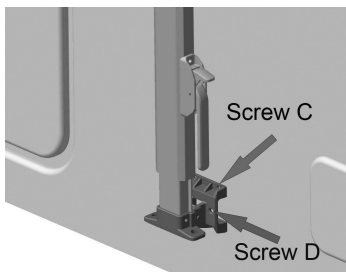
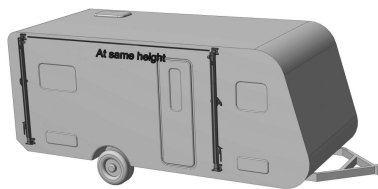

Figure C8
Figure C9
3.3 Take the bottom brackets from the arms, put them to the bottom install position with aluminium plates, fix them with Screw C and Screw D(Figure C8), Next assembly the arm to the bracket, fix the upper brackets with Screw C and Screw D too. Make sure the two arms are in same height.(Figure C9)